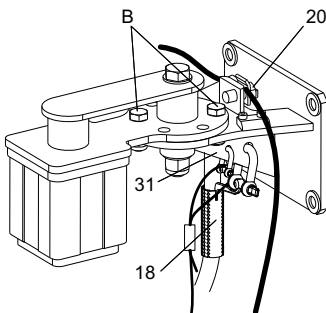

Fig. 9 Top fixation bracket with lifting and safety wires and cable sock
20. Mount the cable sock (pos. 18) to the top fixation bracket using the shackle, and pull the motor cable through it to the desired position. See fig. 9. The power supply cable should be slightly tightened.